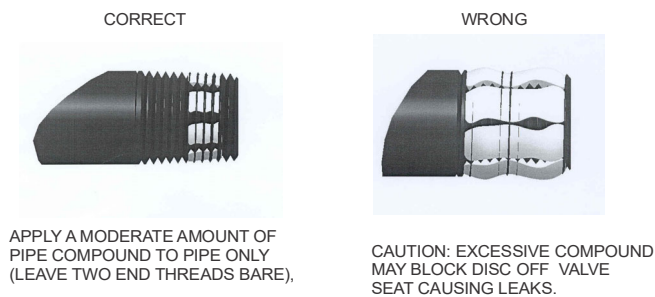

Figure 2: Use a Moderate Amount of Pipe Compound
- For any threaded connections, threads of pipe and nipples must be smooth and free of tears and burrs. Steam clean all piping inside diameter to remove foreign substances such as cutting oil or thread chips before installing into the valve. Apply a moderate amount of good quality pipe compound (do not use Teflon tape) to pipe only, leaving two end threads bare (see Figure 2). On LP in use compound resistant to LP gas.